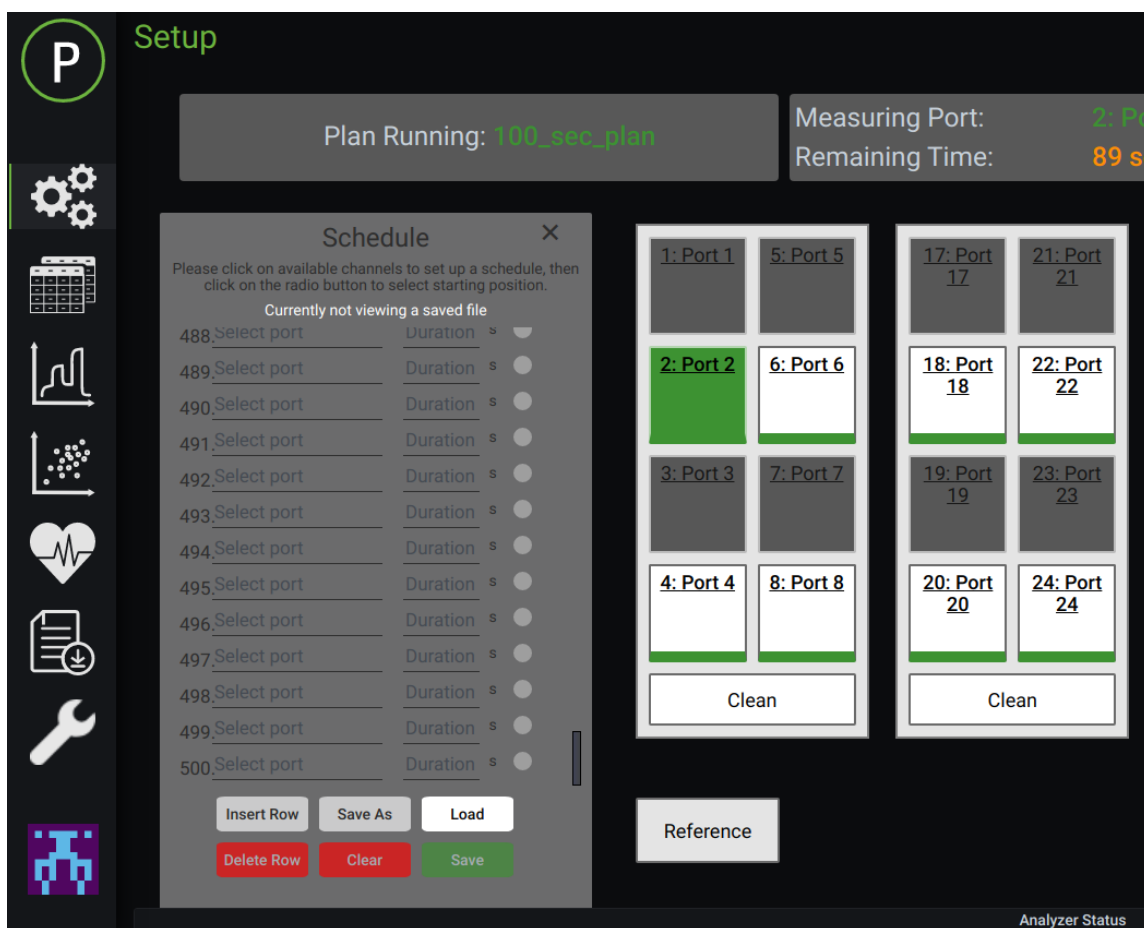

Figure 21: Schedule Screen
A default schedule with an existing measurement plan will display (Figure 21).
7. When ready, save your plan by clicking the **Save** button (Figure 21 above).